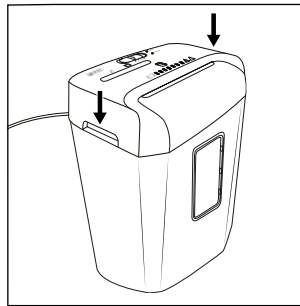

Fig. 2
- ◆ Hold the cutter attachment **6** by the two integrated carrying recesses **8** and position it over the large waste collector **12** so that the power cable **1** points backwards and the viewing window **11** in the large waste collector **12** points forwards (see fig. 2).
- ◆ Hold the cutter attachment ⑥ by the two integrated carrying recesses ⑧ and position it over the large waste collector ⑫ so that the power cable ① points backwards and the viewing window ⑪ in the large waste collector ⑫ points forwards (see fig. 2).